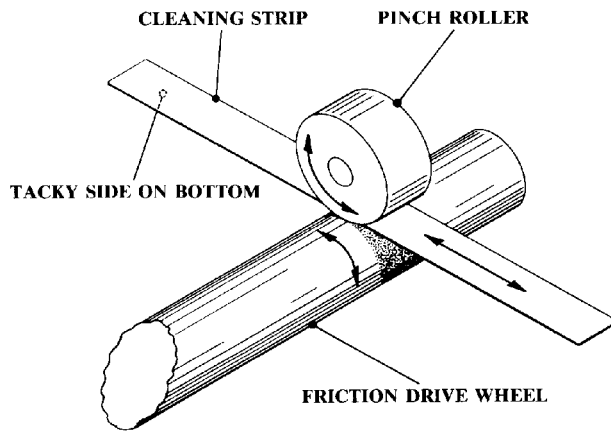

Figure 3-1.
6. Place the cleaning strip between the pinch roller and the plot drum, with the tacky side of the cleaning strip toward the friction drive wheel as shown in Figure 3-1.